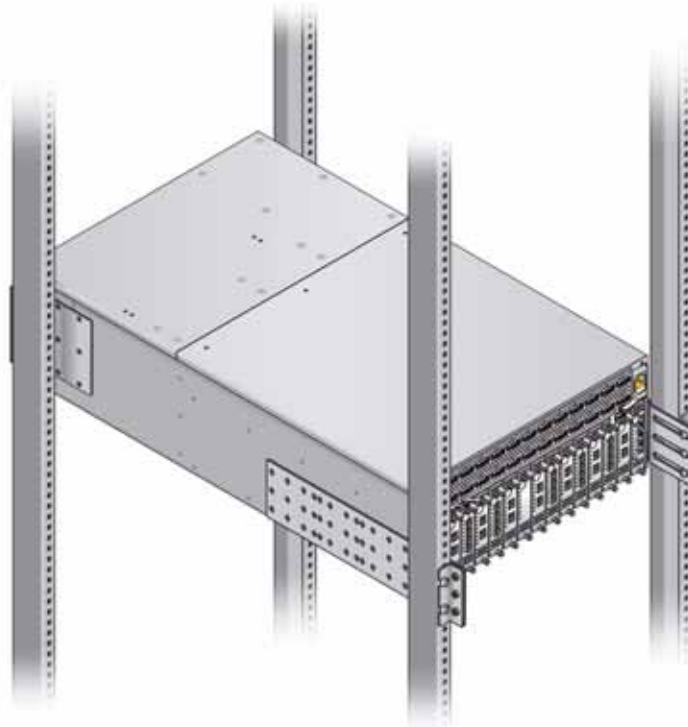

Figure 7 Installed Fabric Director
Step 21 When all screws are tightened, and the chassis is installed and secured to the rack, you can remove the rail kit as shown in Figure 7.